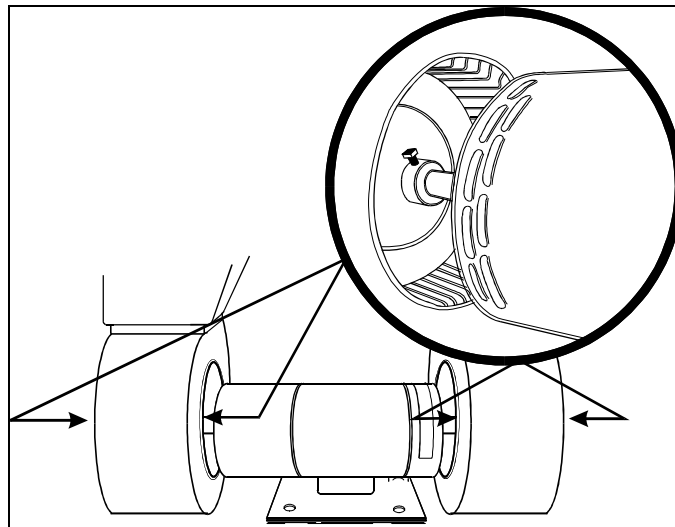

FIGURE 1: LOCATION OF THE SCREWS OF THE FAN 22109
4. Remove the two fans (Fig. 1).